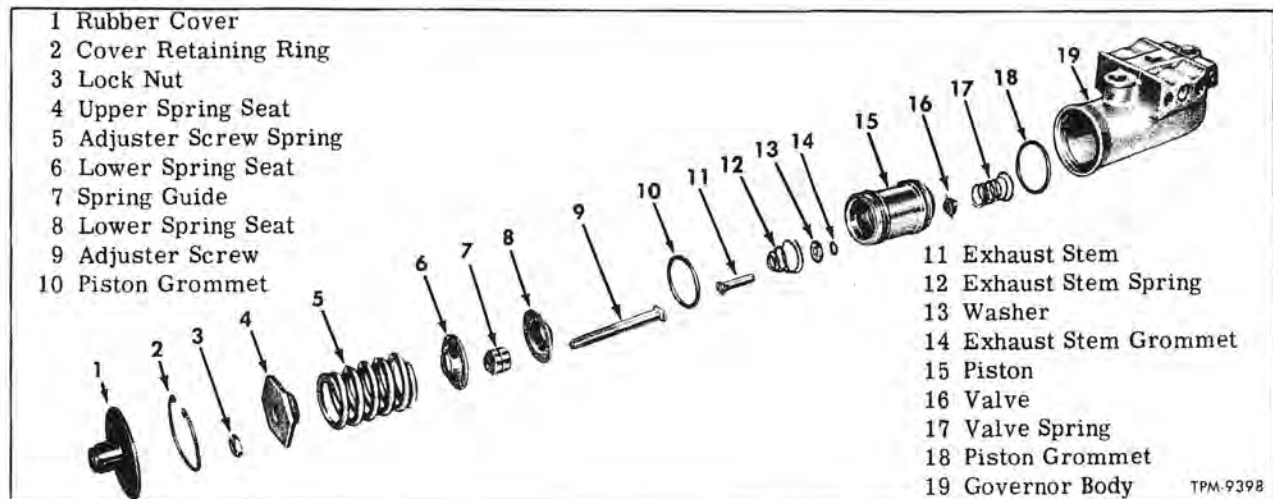

Figure 18—Type "D-2" Governor Components
- Key numbers in text refer to figure 18.
2. Using fingers, remove rubber cover (1) from governor assembly. Remove two pipe plugs from governor body.
3. Using Tru-Arc pliers, remove cover retaining ring (2) from groove in governor body (19).
4. Remove adjusting screw and spring assembly from governor body (19).
6. Remove two piston grommets (10 and 18) from grooves in piston (15). Discard grommets.
7. Remove valve spring (17), valve (16), exhaust stem (11), and exhaust stem spring (12) from piston (15).
8. Remove exhaust stem grommet (14) and washer (13) from bore. Discard grommet.
10. Carefully measure distance lock nut (3) is threaded on adjuster screw (9) before removing it in step 11 following:
Key numbers in text refer to figure 18.